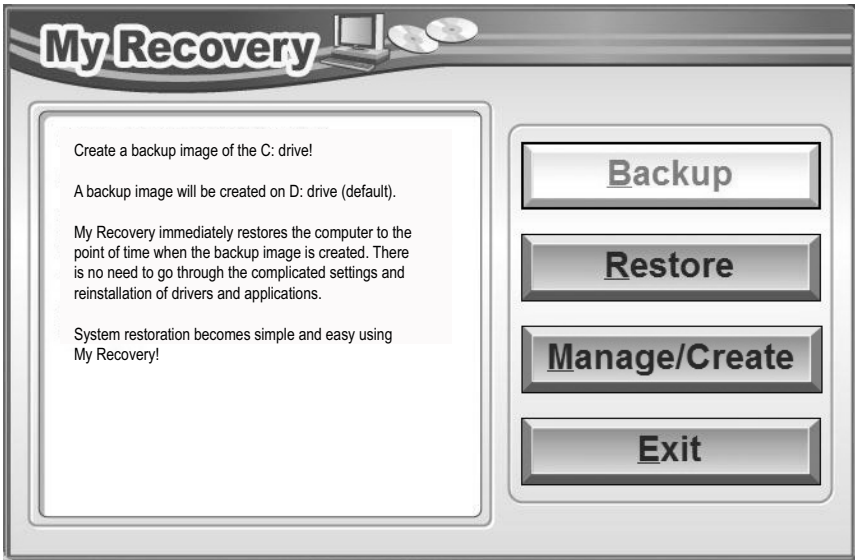

Figure 2. MyRecovery screen
- 1 Click the [MyRecovery] icon on your desktop. The My Recovery screen will appear (See Figure 2). Note that the screen illustrated may vary, depending upon your system configuration.)